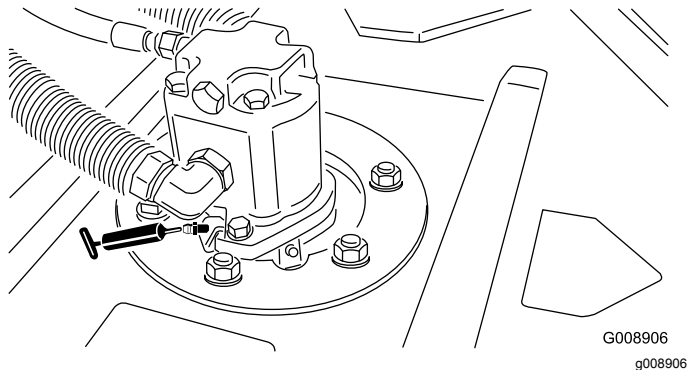

Figure 54
- Cutting unit spindle-shaft bearings (2 per cutting unit)—Figure 54